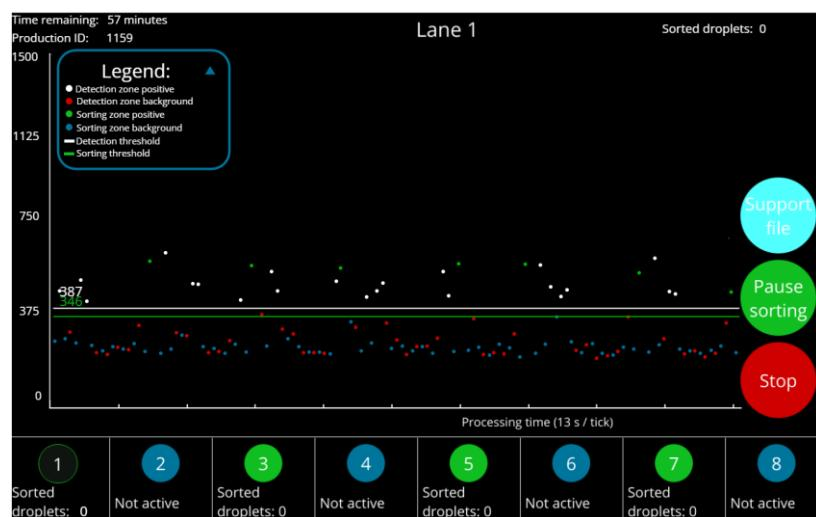

Fig. 3.14. This droplet view screen displays during droplet analysis when sorting is applied.
- Once the thresholds have been set on all the lanes press **Start sorting** (Fig. 3.14).